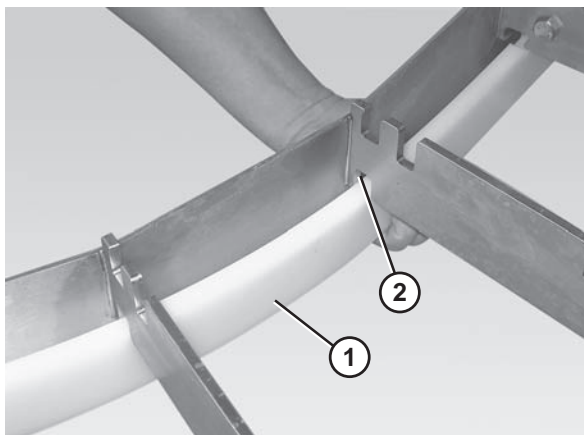

Figure 30
1. Insert the inside return bottom wear strip (**Figure 30, item 1**) into the slots (**Figure 30, item 2**) on the lower inside section of the frame (figure shown without the belt or wear strips).
2. Attach the chain return shoes (**Figure 30, item 1**) to the curve return shafts (**Figure 30, item 2**).